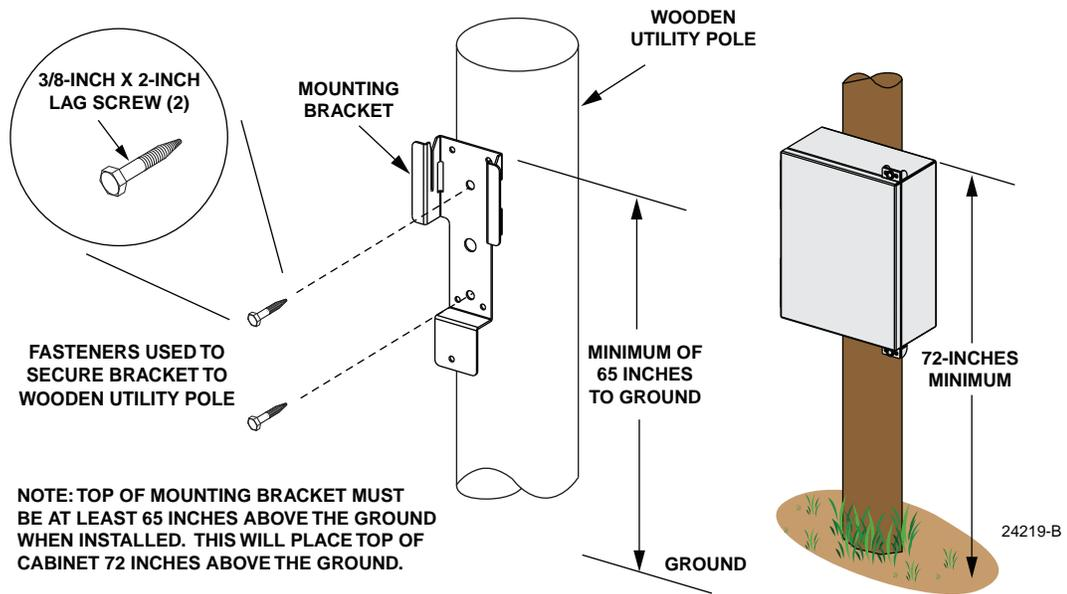

Figure 3. Installing Mounting Bracket on a Wooden Utility Pole
- 1/2-inch through-bolt (1), 1/2-inch nut (1), 1/2-inch flat washer (2)
- 1/2-inch threaded rod (1), 1/2-inch nut (1), 1/2-inch flat washer (2), 1/2-inch lock washer (2)
2. Using the mounting bracket as a guide, mark the location of the bracket mounting holes on the pole as shown in Figure 3.